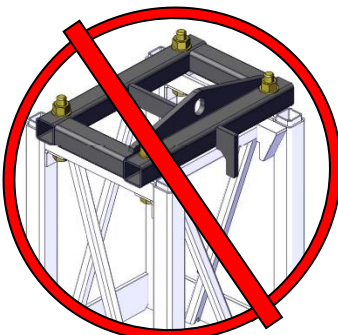

Figure 49
- Mast end sections must be removed before positioning the slings or belts (*Figure 49*).